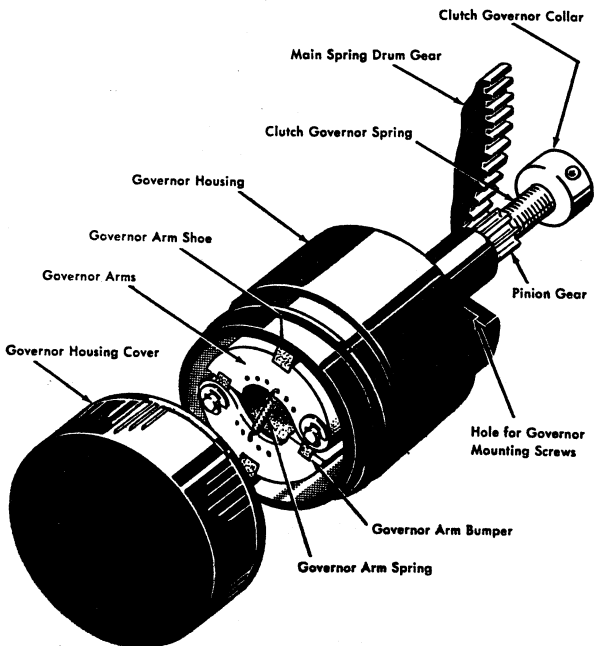

Figure 37. Centrifugal Tab Governor
- a. Position the governor by means of its mounting screws for a maximum of .005" backlash between the pinion gear and the main spring drum gear. Check full length of the carriage (Figure 37).
- c. Speed of the carriage on tabulation is adjusted by moving the carriage on tabulation is adjusted by moving the spring closer to the governor arm spring. Move the spring closer to the governor arm pivots for more governor action, move the spring away from the pivots for less governor action (Figure 37). (This spring must be in a corresponding hole in each governor arm.)